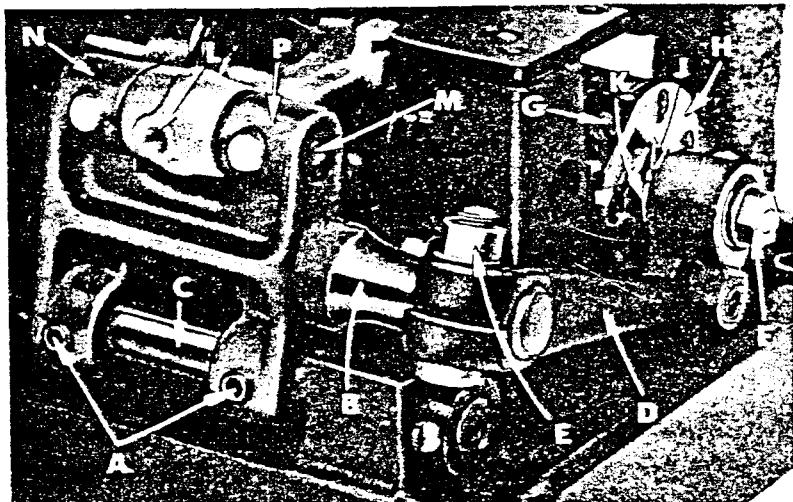

Fig. 10
Should it be necessary to move the feed dog to the left or right, loosen screws (A, Fig. 10) which hold the feed rocker (B) onto the feed rocker shaft (C), and move feed rocker to desired position and retighten screws. Make sure the feed rocker arm (D) does not bind after making this adjustment.
Should it be necessary to move the feed dog forward or backward, loosen nut (E, Fig. 10) which clamps the feed rocker arm to the feed rocker and move the feed rocker forward or backward as needed and retighten nut.
Set the stitch to required length. This is accomplished by loosening the locknut (F, Fig. 10) 1/2 turn (it has a left hand thread) on the end of the stitch regulating stud and turning the stitch adjusting screw (G) located under the left end of the cloth plate, in the head of the main shaft (H), which is marked with 'L' and 'S'. Turning the screw clockwise shortens the stitch (moves stitch regulating stud toward the 'S') and turning it in a counterclockwise direction lengthens the stitch (moves stitch regulating stud toward the 'L'). Retighten the locknut securely. To prevent destructive damage to the feed drive bearing, the Key screw (J) must engage the "U" shaped key slot in the ferrule (K).
The feed rocker assembly may require lubrication or repair after years of operation. This can be accomplished as follows: Loosen nuts (E, F, Fig. 10) and remove nut (F). Remove feed rocker arm (D) from machine by rocking slightly. Loosen screws (A) and remove stop collar on right end of shaft (C). The shaft can now be withdrawn. Loosen Allen screw (L) and remove shaft (M). Now, repack bearings.
Greased bearings are located at (N, P, Fig. 10). If grease sealed bearings are replaced they should be pressed in flush with the casting. To assemble, reverse the procedure described in the previous paragraph. Start tapered end of shafts first, twisting slightly when entering the grease seals to prevent damage. Check for proper adjustment of feed dog as described under "Setting the Feed Dog". Also check to see that there is no binding at any point.